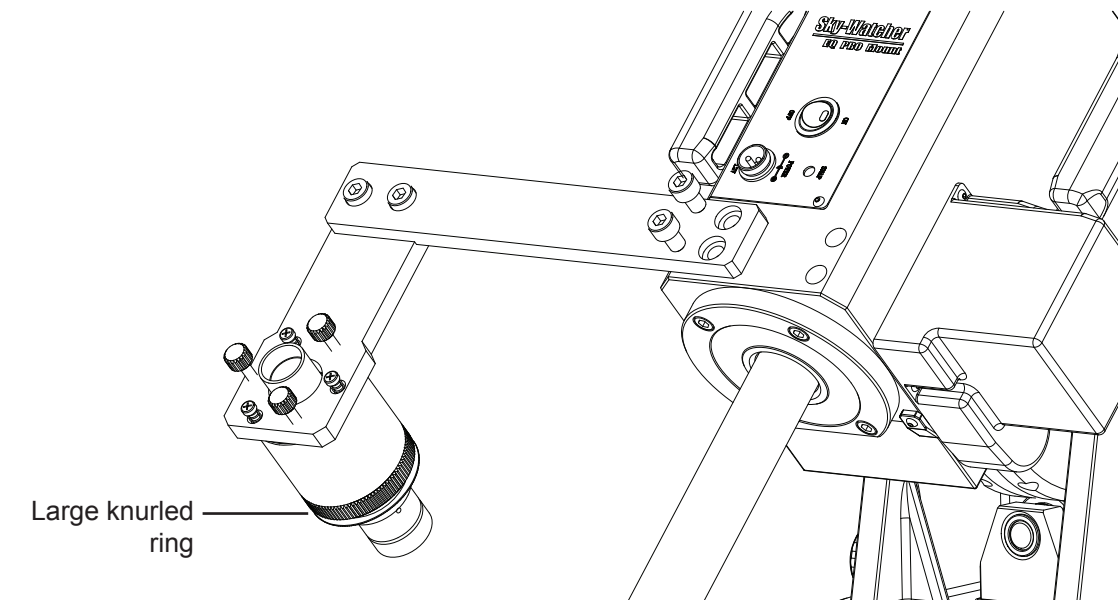

Fig. 2.3a
1. Install the polar scope assembly on the EQ8 mount as shown in Fig 2.3a.